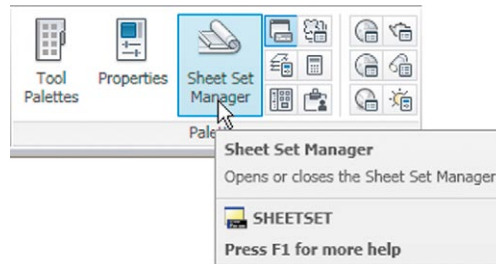
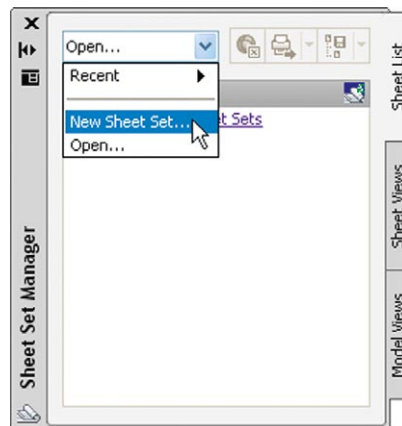

Fig. 11.3 Selecting **Sheet Set Manager** from the **View/Palettes** panel
Fig. 11.4 The **Sheet Set Manager** palette
3. Click **Sheet Set Manager** in the **View/Palettes** panel (Fig. 11.3). The **Sheet Set Manager** palette appears (Fig. 11.4). Click **New Sheet Set...** in the popup menu at the top of the palettes. The first of a series of **Create Sheet Set** dialogs appears – the **Create Sheet Set – Begin**